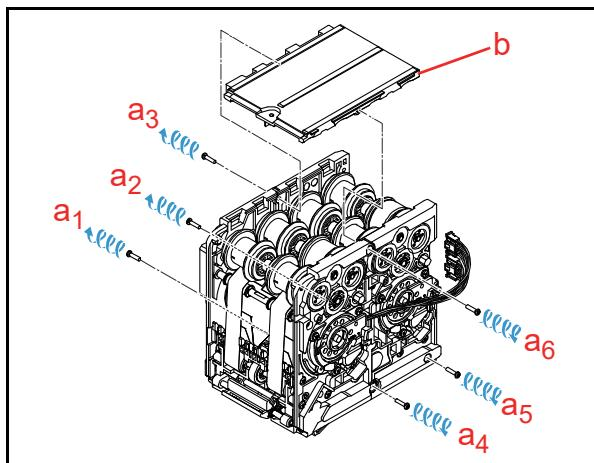

**Figure 4-96** Tape Board Removal 4
5. Remove the two (2) Screws (Figure 4-96 **a1** & **a2**) to remove the two Tape Boards (Figure 4-96 **b1** & **b2**).